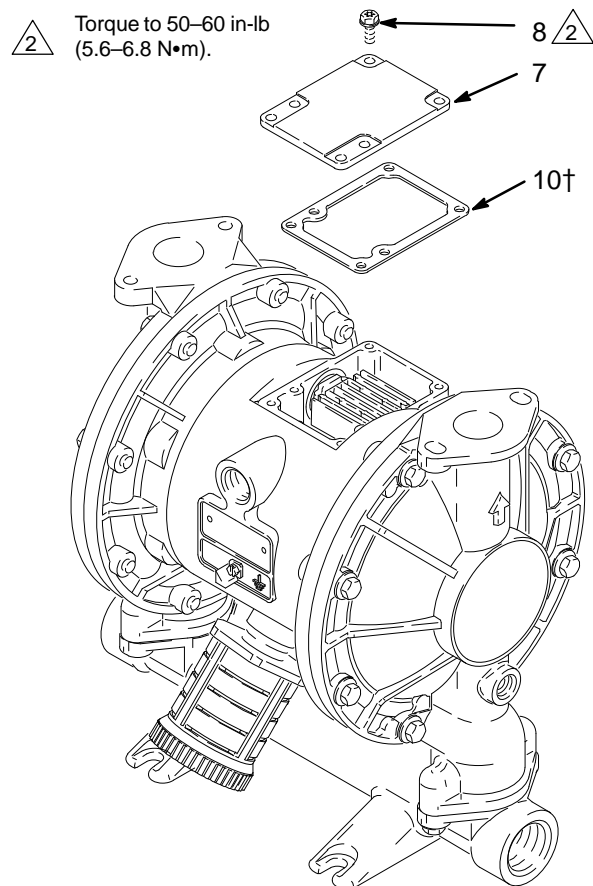

Fig. 8
2. With a Torx (T20) screwdriver or 7 mm (9/32 in.) socket wrench, remove the six screws (8), air valve cover (7), and gasket (10). See Fig. 8.
10. Align the valve gasket (10†) and cover (7) with the six holes in the center housing (5). Secure with six screws (8), using a Torx (T20) screwdriver or 7 mm (9/32 in.) socket wrench. Torque to 50–60 in-lb (5.6–6.8 N•m). See Fig. 8.